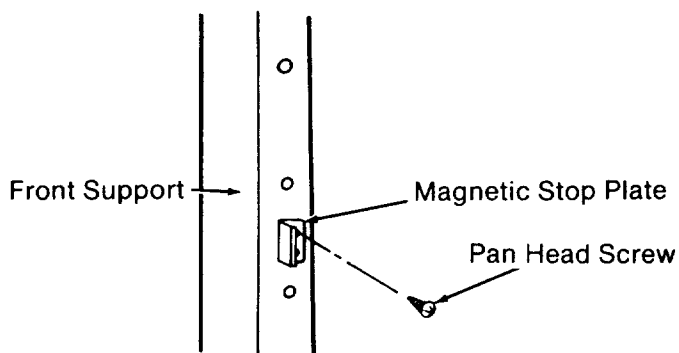

Fig. 29
4. Attach a *magnetic stop plate* to the two small holes on the side of the *front support* using four pan head screws. Tighten with a Phillips screwdriver. (Figures 29 & 30)